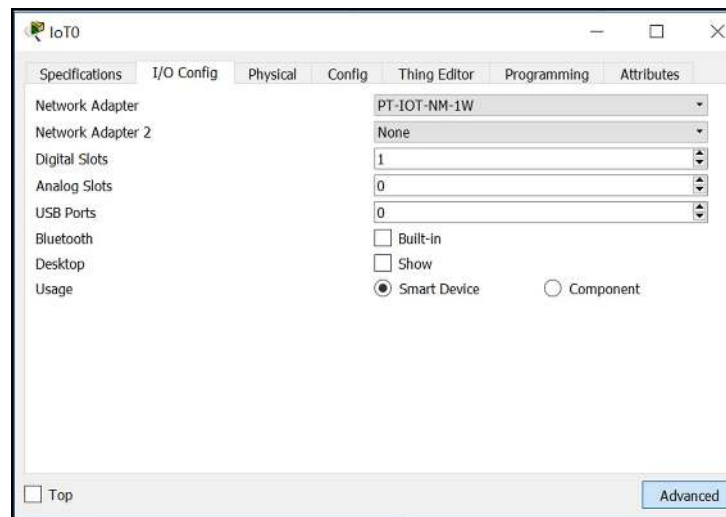

Figure 8.5: Selecting the PT-IOT-NM-1W Wireless Adapter in *I/O Config*
- Refer to Figure 8.5 to see how to choose the PT-IOT-NM-1W adapter.